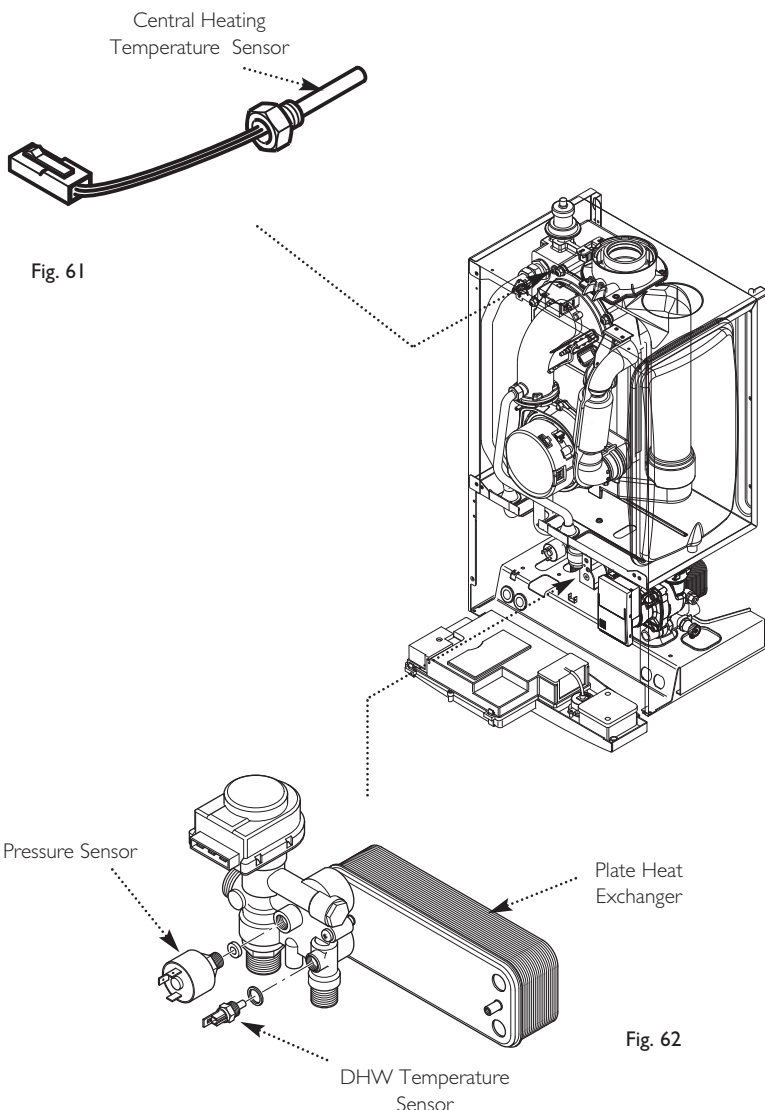

Fig. 61
13.8 Central Heating Temperature Sensor (NTC) (Fig. 61)